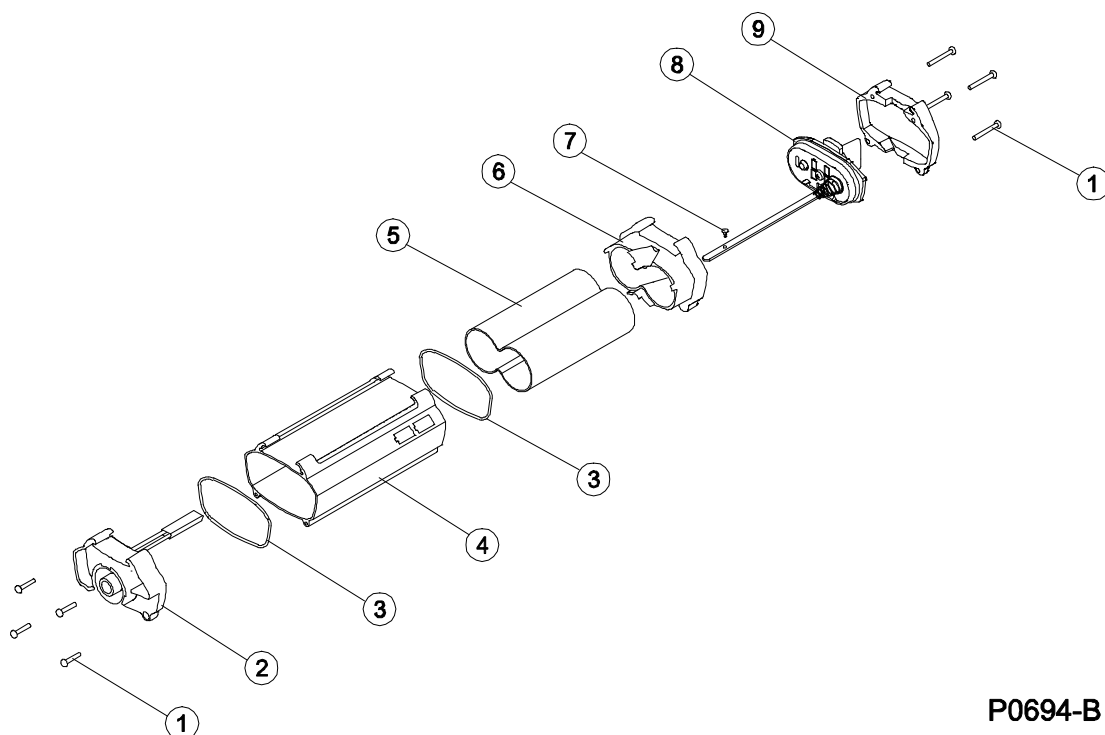

Figure 73: Connecting Friction Blocks.
- Refit the friction blocks to the camlock lower. The flat side of the friction blocks should face down. Shown in Figure 73.